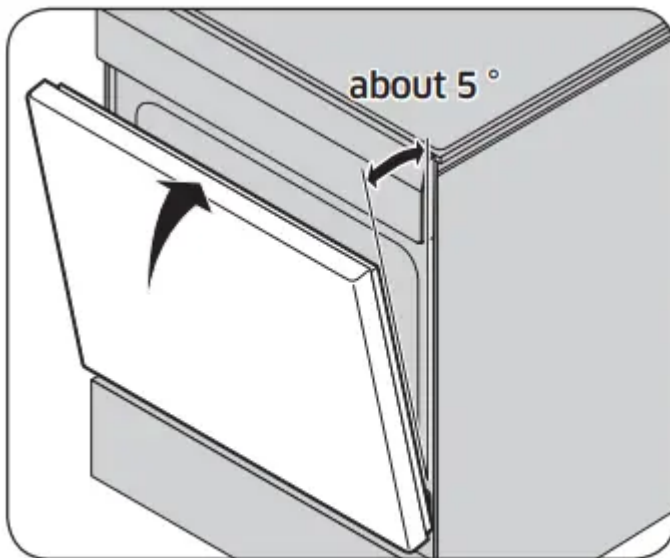

Fig. 1
4. Close the door to the door removal position, which is approximately 5 degrees from vertical (Fig. 1)